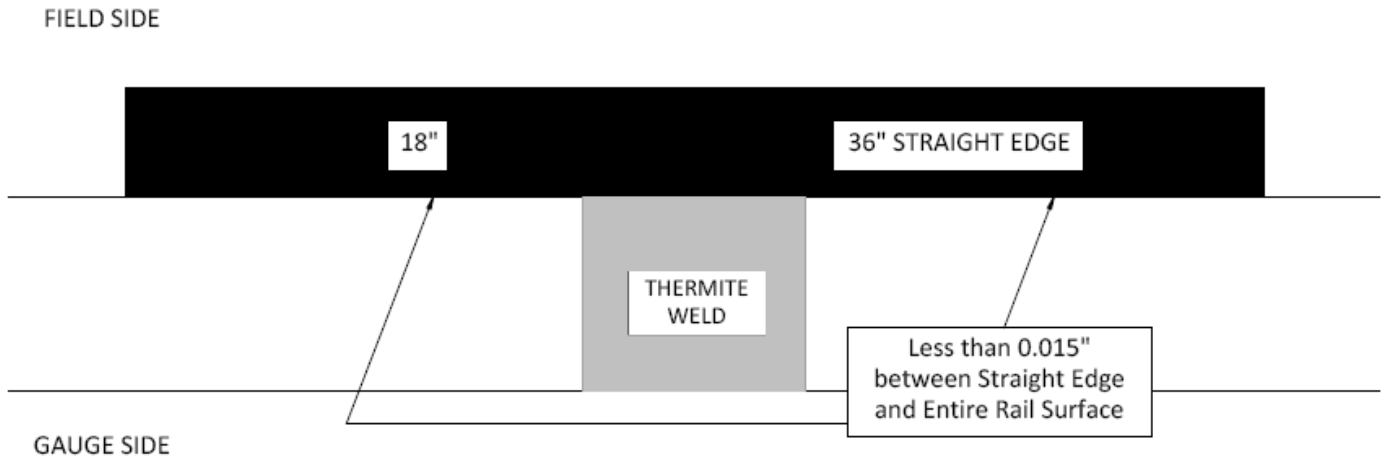

Fig. 29.13
- e Where no horizontal offset condition exists and where the rail may be subject to transposal at a later date, the field face of the rail head should also be ground such that: When a 36" straight edge is placed on the field face of the rail with the weld at the midpoint; and The maximum distance between the rail head and any point along the entire length of the straight edge should be less than fifteen thousandths (.015) of an inch. (Figure 29.13)